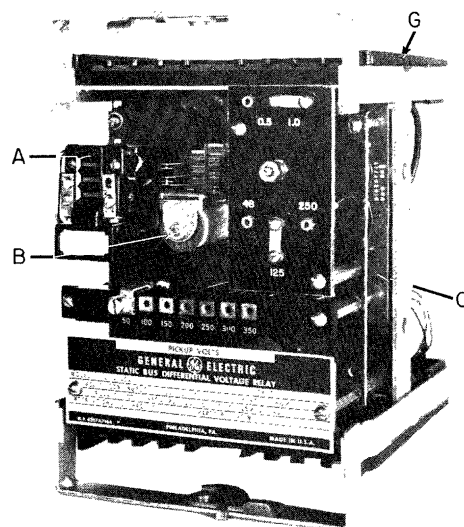

Fig. 2. Type SBD11A, without case, front view
- A. Figure 2 on page 1 indicates that the reference letter for the Target Seal-in Unit is "A".